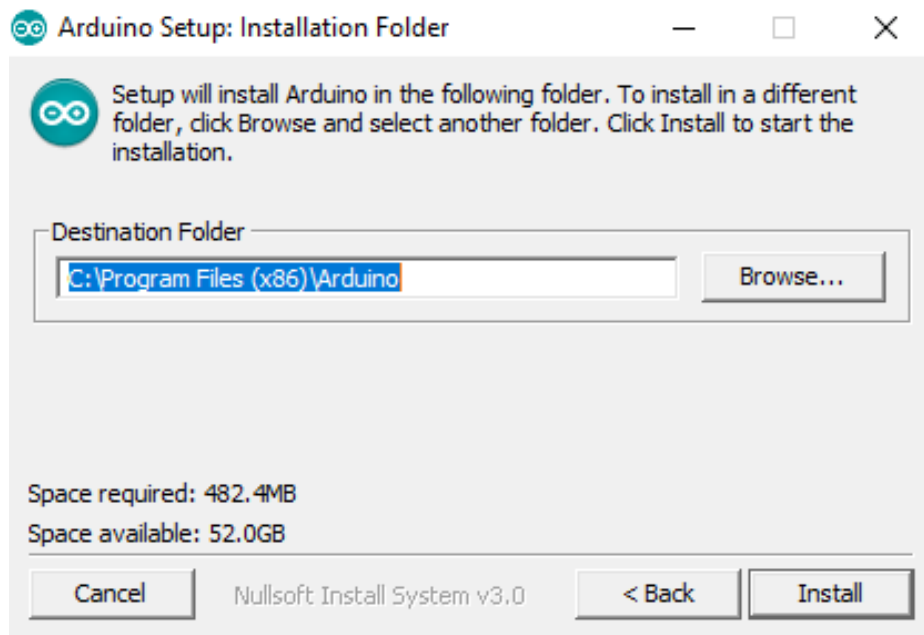

Fig.2.8: Screenshot for Installation Directory
2. Choose the installation directory (Fig. 2.8).